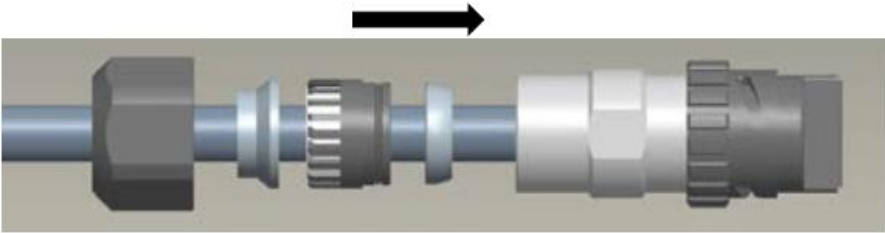

Figure 4-18 Wire assemble
Step 3: Mate the dust cap onto the front plug (2) and assemble the shell(3) into position using an M25 spanner torque: 6 to 8 N·m, as shown in Figure 4-18.